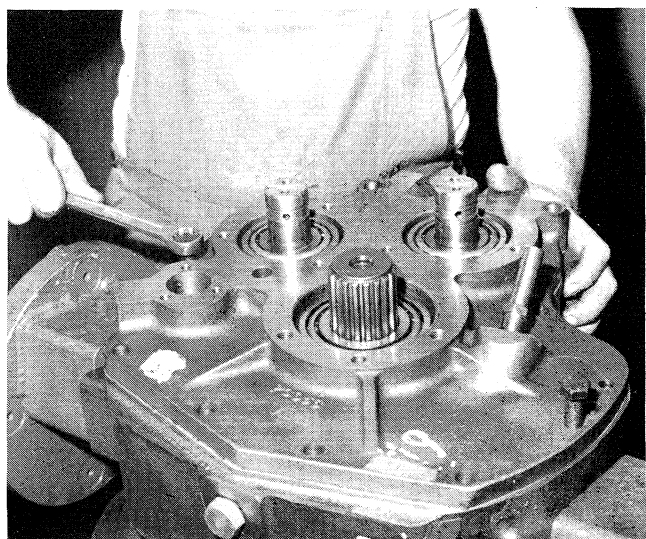

Figure 6-8. Using Pusher Screws to remove Rear Cover.
16. Remove the ten hex-head capscrews (Figure 12-1, 12, 15 and 49) that secure the rear cover (14) to the main housing (8). See Figure 6-8. Use two 1/2-13 pusher screws and remove the rear cover and the main housing gasket (Figure 12-1, 13) from the main housing. Do not remove the two dowel pins (49) from the rear cover or main housing. Remove the bearing cups of the output shaft tapered roller bearing (Figure 12-2, 20), the forward clutch shaft tapered roller bearings (Figure 12-3, 21), and the reverse clutch shaft tapered roller bearing (Figure 12-4, 21) from the rear cover only if replacement of parts is necessary.